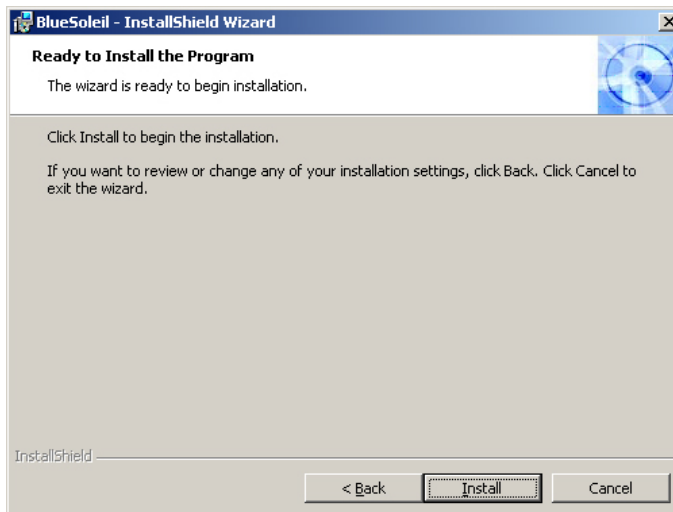

Figure 7-39: Ready to Install the Program
Step 7: Click **NEXT** and the InstallShield Wizard is ready to install the program (**Figure 7-39**).